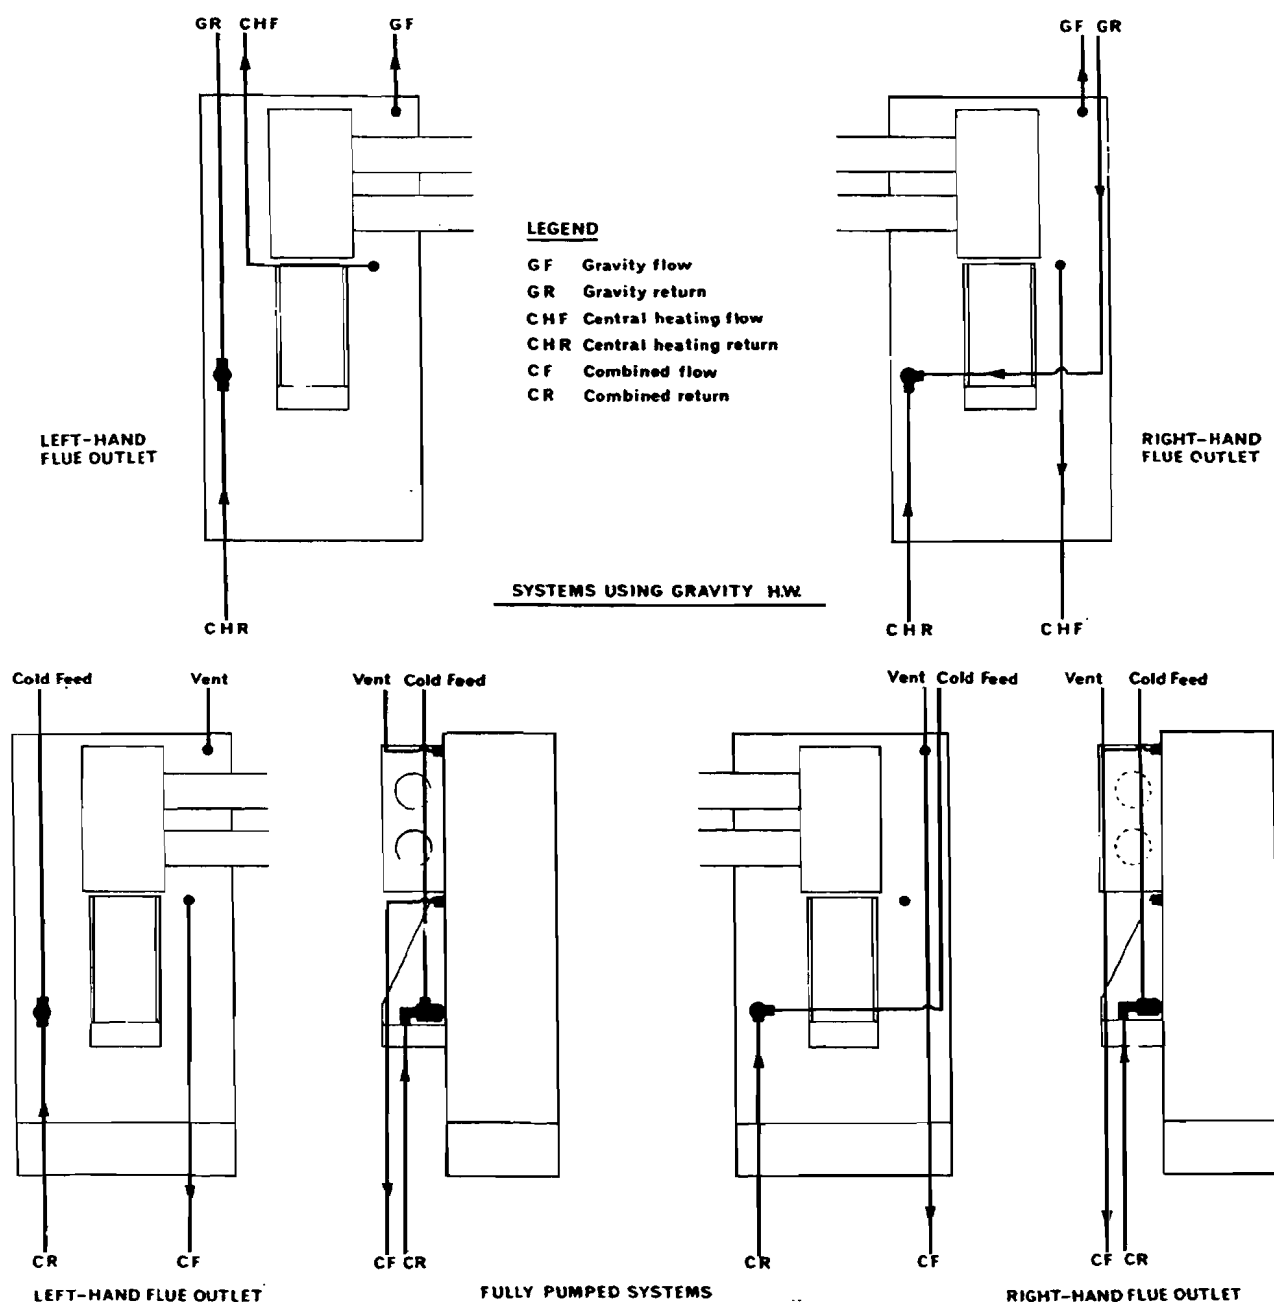

Fig. 8 SUGGESTED PIPEWORK VIEWED FROM BEHIND BOILER
The boiler is designed so that all pipes can be hidden within its own width except where they leave the boiler at top and/or bottom. Because the water connections are behind the boiler backplate, short lengths of pipe will have to be connected to some of the tapings to be used before the boiler is lifted into position, and terminated in a position suitable for connecting to the system pipework; it is recommended that copper capillary connections are used. Although it is possible to install the boiler and its pipework with only access from the front, it is very much easier with access from at least one side. This access is not necessary for maintenance which can be carried out from the front only. The injector tee and special nozzle elbow will first have to be positioned and both joints made sound. Pipe runs must be kept clear of the areas where the plenum chamber is to be fitted and where the air inlet and flue ducts will be located if a side outlet is being used. Connections which can be used and suggested methods of running pipework behind the boiler are shown in Fig. 8. Any pipe tails running downwards from behind the boiler should not protrude below the bottom of the wooden feet. Refer to Figs. 12 to 15 for diagrams of typical systems to which the boiler can be connected.
- (1) Using Fig. 8 as a guide, decide on the best pipe run at the rear of the boiler to suit the particular system.
- (2) Connect a suitable length of 28mm pipe to the domestic hot water flow connection.
- (3) Connect a suitable length of 22mm pipe to the heating flow connection. There is space behind the boiler to split the flow if necessary. The central heating circulating pump can be fitted above or below the boiler on either the flow or return as required.
- (4) Fit the injector tee and the special nozzle elbow to the boiler combined domestic hot water/central heating return connection. The 1 in. BSP side outlet in the tee for the gravity domestic return can be located in any convenient position through 360° simply by rotating the tee in its connection; this will enable it to be connected to the domestic return pipework, irrespective of the direction from which the pipework is routed. The same applies to the special nozzle elbow which must be screwed into the back of the tee; the connection in the elbow is 22mm and should be used for the heating return. When the elbow has been screwed into the tee, it should not protrude more than 95mm (3¾ in.) from the boiler backplate or it could foul the wall behind the boiler.
- (5) Connect suitable lengths of pipework to the tee and the elbow as necessary. There is space behind the boiler to combine the two heating circuits if required.
- (2) When connecting the flow pipework, it is only necessary to use one flow connection, preferably the upper 1 in. BSP with the lower ¾ in. connection being blanked off. However, in